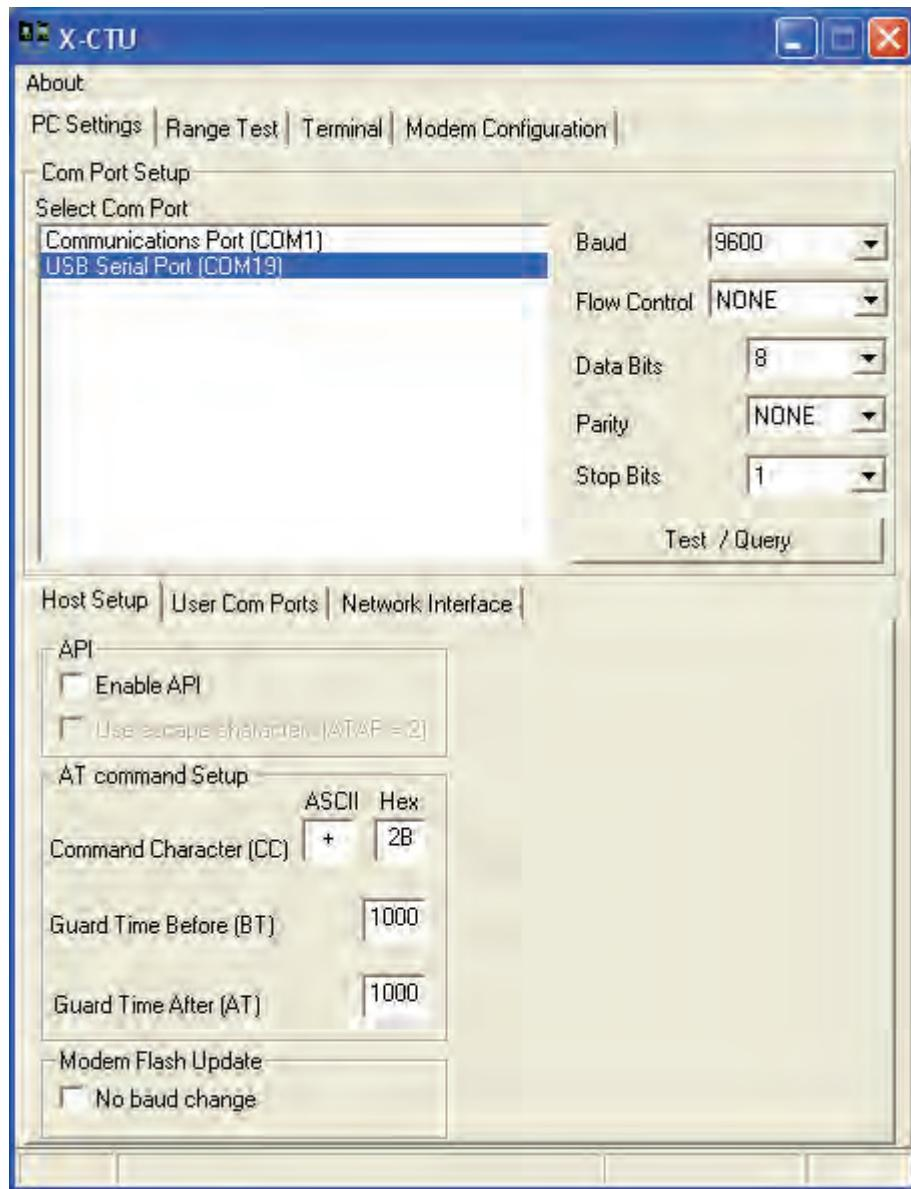

Figure 3-3: X-CTU
- ✓ If your XBee USB Adapter is connected you should have one or more COM ports listed as shown in Figure 3-3.